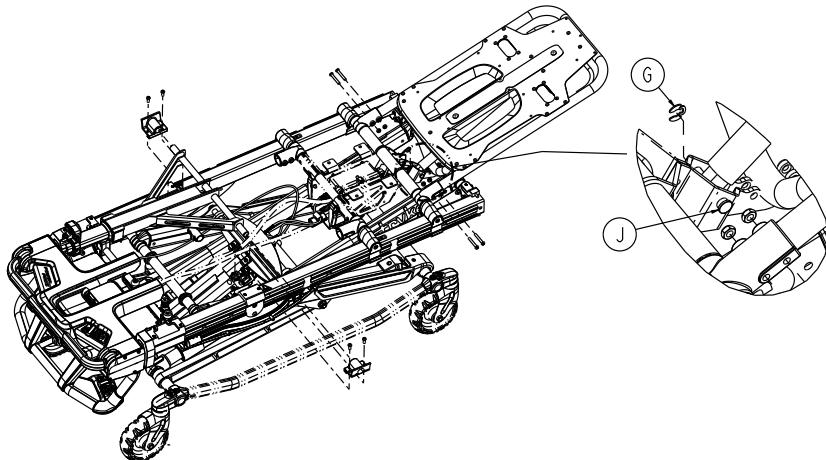

Figure 14 – Remove the truarc ring and Fowler cylinder pin
7. Using a small slotted screwdriver, remove the truarc ring (G) and Fowler cylinder pin (J) that secure the bottom of the gas cylinder to the mount (Figure 14). Save the truarc ring and Fowler cylinder pin.